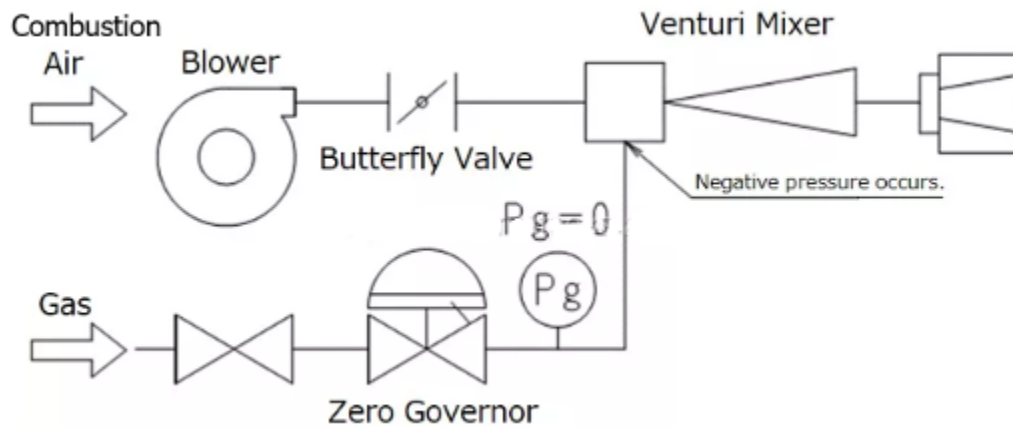

Figure 38. Venturi mixer schematic
These regulators are ideal for gas engines and modulating aspirator burners as they will automatically change the gas flow to match any changes in the air flow through the venturi mixer (Figure 38).
- Figure 38.”Venturi mixer schematic” from ITO Corporation is used for educational purposes under the basis of fair dealing.